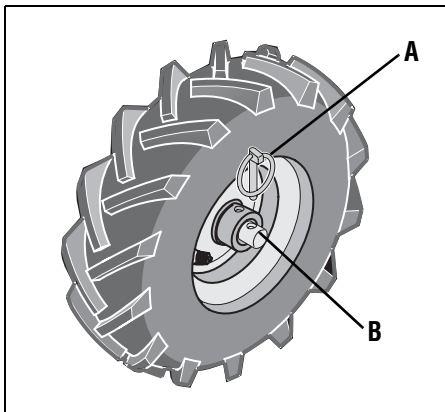

Figure 3-3: FREEWHEEL position.
5. **FOR FREEWHEEL MODE** (Figure 3-3): Slide the wheel inward and insert the Klik pin (A, Figure 3-3) only through the hole in the wheel shaft (B). Repeat for the other wheel and then remove the support from beneath the transmission.